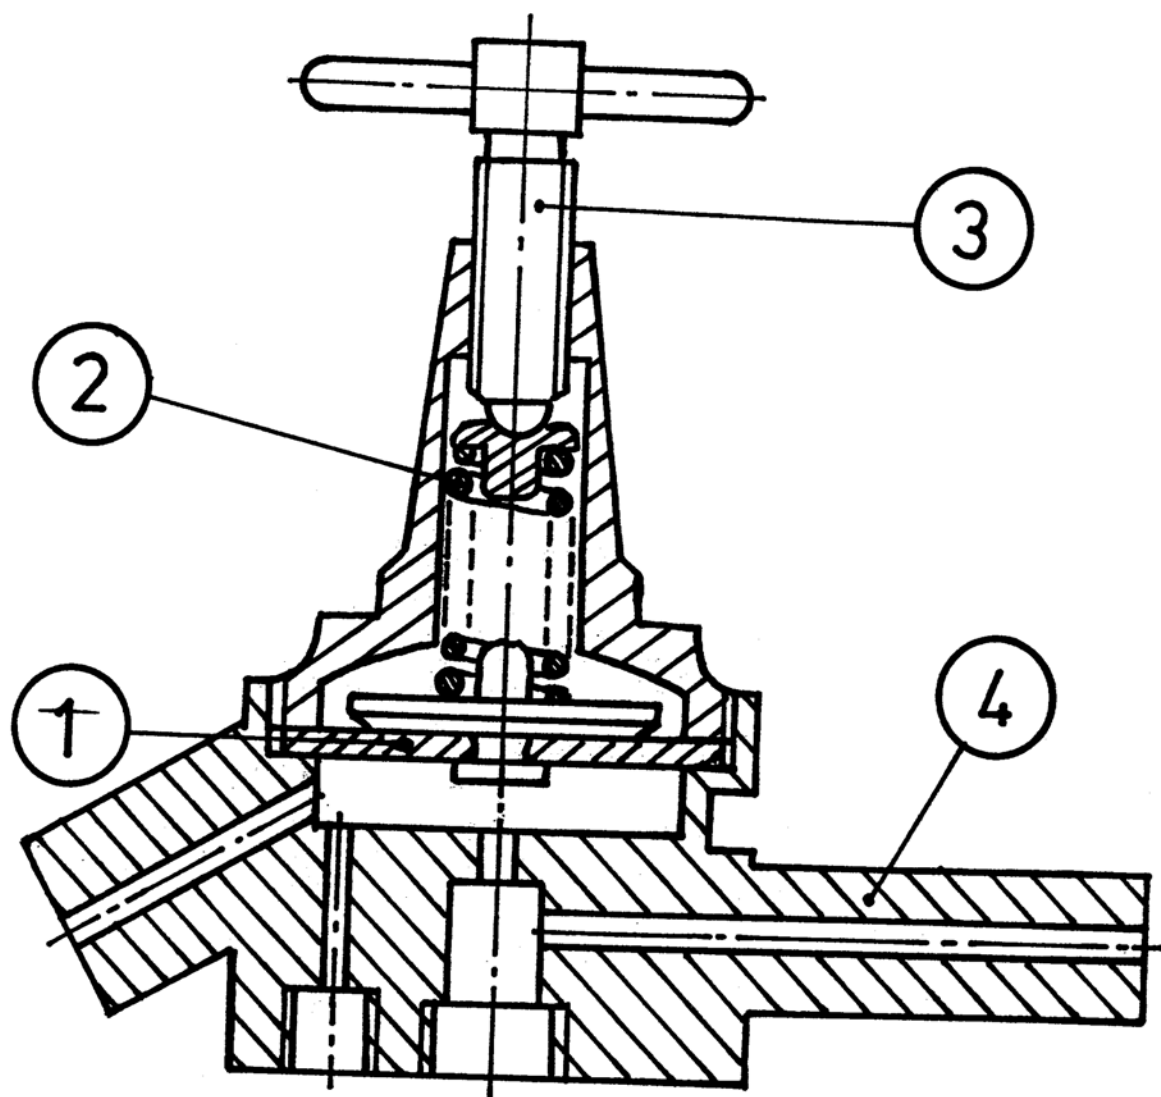

FIG.5
- (b) (i) Identify the mechanism shown in Fig. 5.